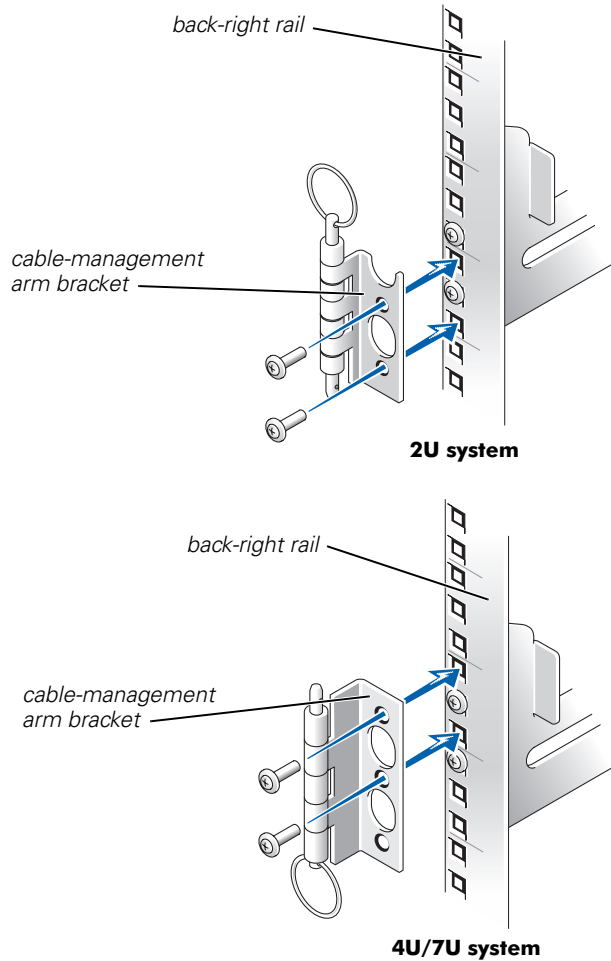

Figure 1-4. Attaching the Cable-Management Arm to the Rack
1. Facing the back of the rack cabinet, align the right-angle bracket of the cable-management arm over the rail mounting screws on the cabinet's back vertical rail as shown in Figure 1-4.
2. Attach the cable-management arm to the rack using two Phillips-head screws (see Figure 1-4).